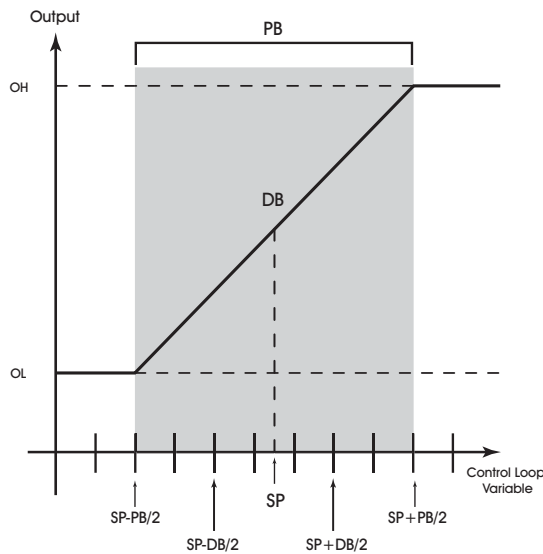
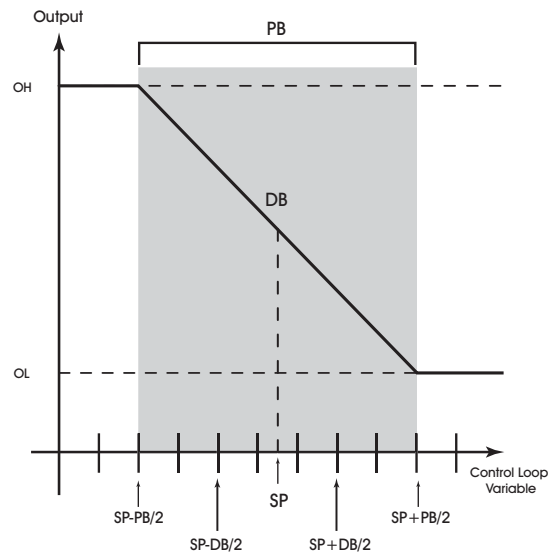

Figure 3-7: Proportional Band for Normal Acting Control (SG = 0)
Figure 3-8: Proportional Band for Reverse Acting Control ($SG = 1$)
To determine **PB**, first decide how closely the SBC-GPC1 must control the output to the setpoint. For instance, if the setpoint is 72°F, then an acceptable control range might be within two degrees of the setpoint. This control range can be expressed as a band centered on the setpoint: from 70° to 74°, or 4 degrees—the *proportional band (PB)*. Refer to Figure 3-7 and Figure 3-8.
For normal acting control loops (see Figure 3-7), **PO** is set to maximum output when the input variable equals the setpoint plus half of the proportional band ($CS + PB/2$). The point **PO** is set to minimum output when the input variable equals the setpoint minus half of the proportional band ($CS - PB/2$). These associations are reversed for reverse acting control loops. See Figure 3-8. **PO** will be midway between minimum and maximum output when $MV=CS$.